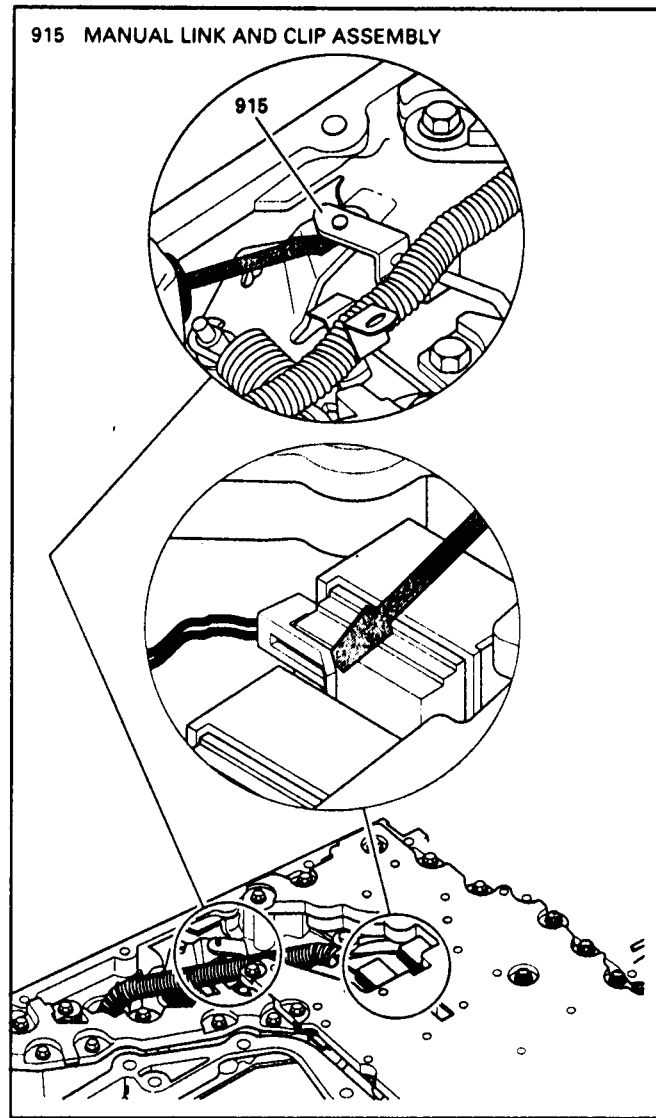

Figure 46
6. Use a small screwdriver to disconnect shift solenoids A and B and transaxle pressure switch connectors by prying back small tabs, shown in Figure 46.
9. Remove manual valve linkage clip using a small screwdriver as shown in Figure 46.